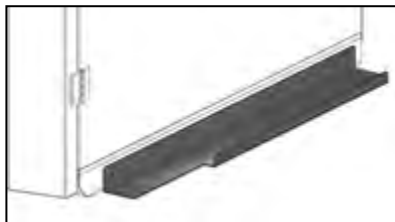

Figure 10-9: Base spacer channel on boiler side panel
- Remove the base spacer channel from the side pellet store and fix it along the bottom edge of the boiler right hand side panel. Secure it in position using the three screws previously removed. Refer to Figure 10-9.